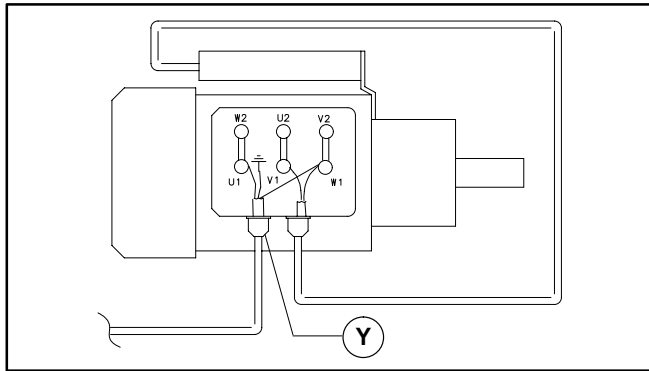

Figure 15
- b. Record wire colors on terminals U1, W1 and ground ( $\perp$ ) (Figure 15). Loosen terminals U1, W1 and ground and remove wires.
- c. Loosen cord grip (Y of Figure 15) and remove cord.